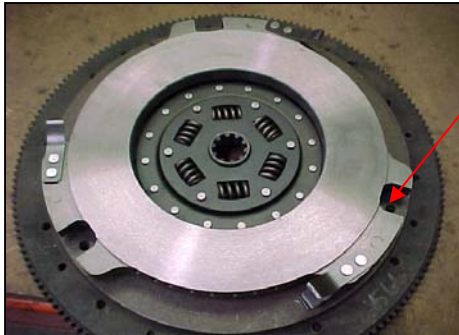
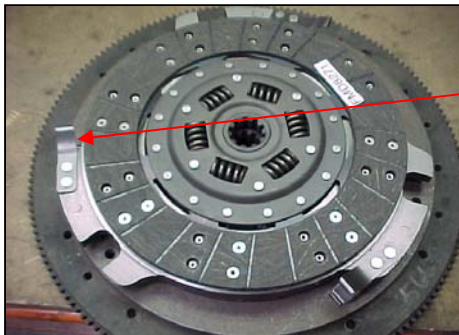

Fig. 2
Fig. 3
2. Before installation of the Centre Drive Plate, ensure that a light film of high temperature lubricant is present on the inside surfaces of the Drive slots. (See fig.2). Locate the Centre Drive Plate over the adaptors with the Centralising Spring Clips to the right or clockwise to the adaptors (fig. 3).
3. Position the Driven Disc FMD 8271 with the "Pressure Plate Side" stamp facing rear of the vehicle. (Fig. 3).